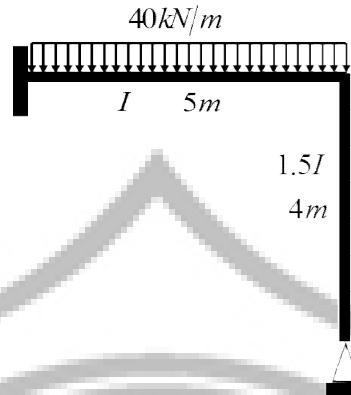

Fig.3
- b) Differentiate between moment distribution method and Kani's method. (7)
- 6 Analyse the 2D frameshown in Fig. 3, using Kani's method.Draw BMD. (15)